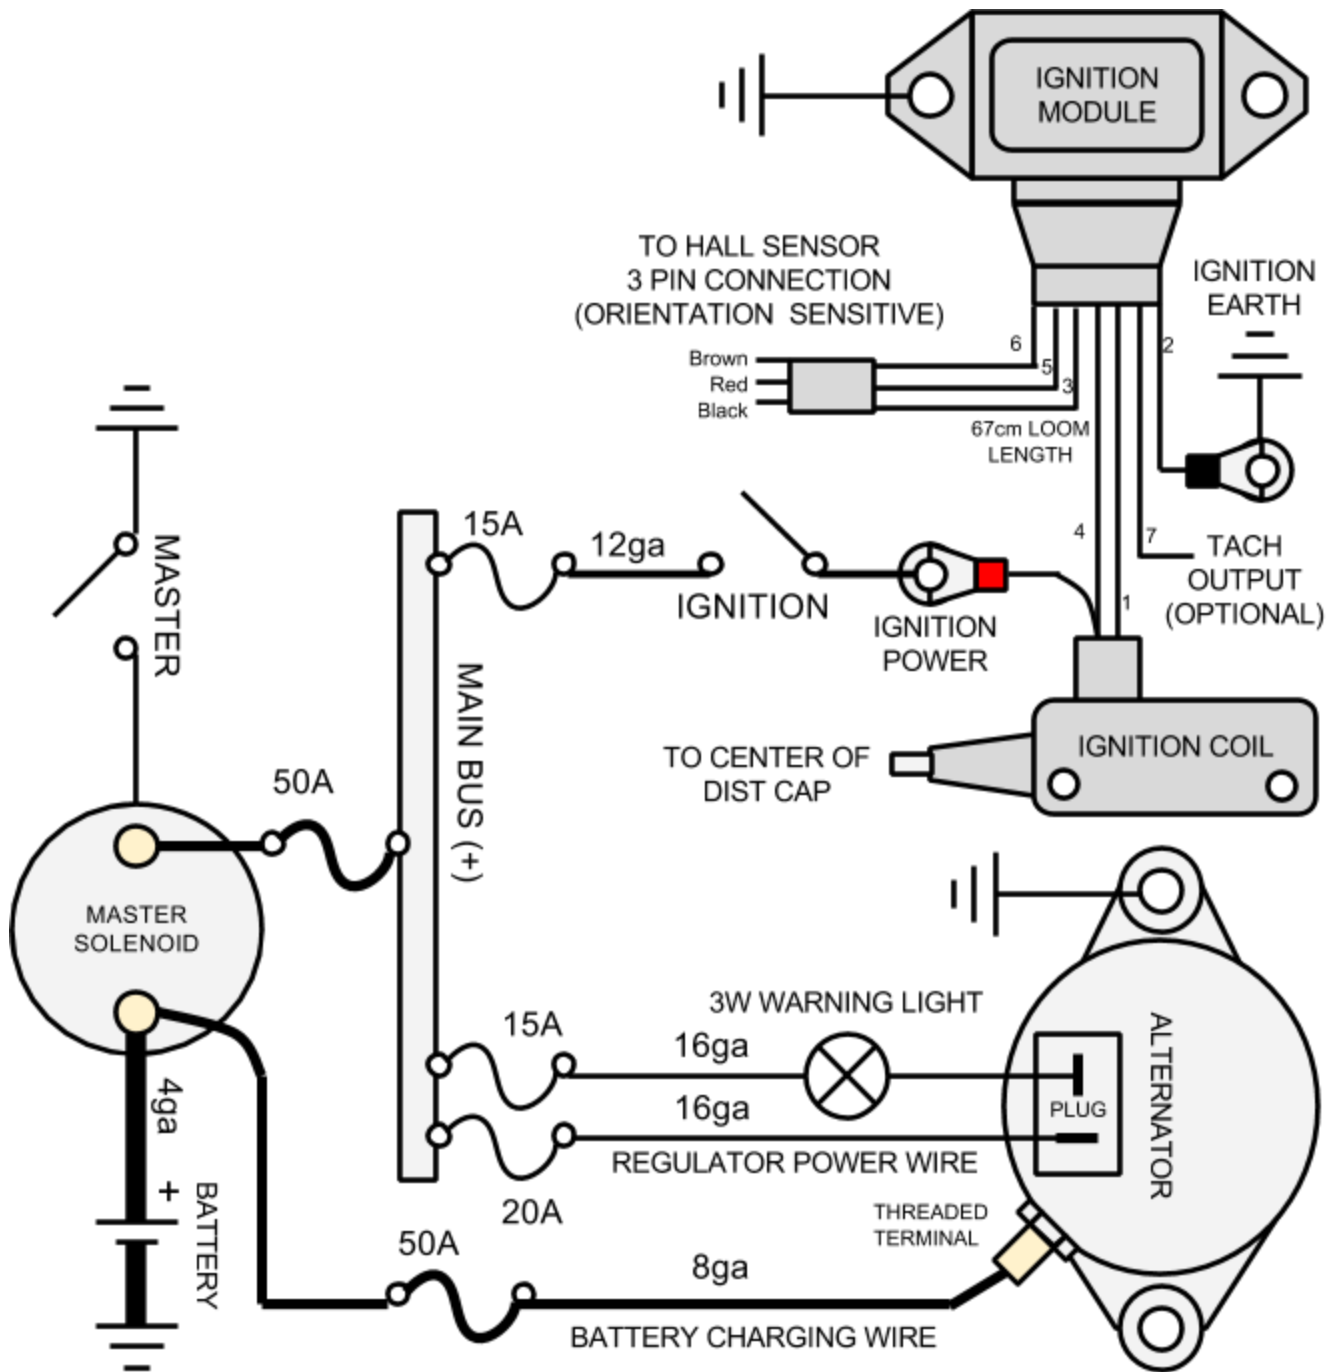

Figure 5.1: Basic wiring diagram for most aircraft.
10. Plug the alternator plug into the alternator. A charging wire is required to be added connecting to the threaded terminal on the alternator (for the alternator wiring diagram, see *Figure 5.1*).
b. Plug the wiring harness 3 pin connection to the installed Hall Sensor. The connection is orientation sensitive, so ensure the colours of the wire match correctly (for wire numbers, refer to *Figure 5.1*). Orientation of the plug can also be determined by chamfers on one side of the plug. If the orientation is incorrect the hall sensor cannot be damaged, only the system will not create spark.
8. Connect the ignition coil lead from the ignition coil to the centre distributor plug (for a full schematic of the wiring system, refer to *Figure 5.1*).
- a. The tachometer pulse signal is provided wire 7 of the ignition module (see *Figure 5.1*). Pulses per revolution is as follows:
A shielded wire or decoupling capacity can be used to prevent any interference signal that may be picked up the aircraft's radio equipment. This will be only required on the charging wire (screw terminal, see *Figure 5.1*), as the length of the wire will be acting as an antenna.